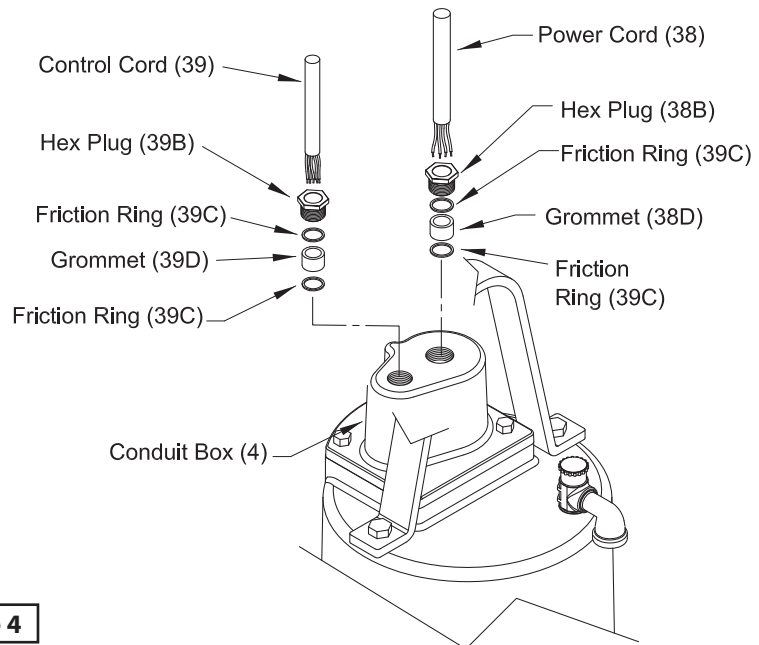

Figure 4
**Conduit Box Assembly** - Check power (38) and control (39) cables for cracks or damage and replace complete conduit box (4) if required. (See Figure 4) Bring motor wires through opening in top of motor housing (3), check sleeving and replace if damaged. Position square ring (5) in conduit box (4) and reconnect leads using connectors and insulators. See Figures 5, for wiring schematics.
Remove gland nuts (38B) & (39B), friction rings (38C) & (39C), and grommets (38D) & (39D) from conduit box (4), inspect and replace if damaged (See Figure 4). Reassemble by inserting one friction ring, grommet, one more friction ring and gland nut into conduit box. Torque gland nuts to 15 ft./lbs. to prevent leakage.
**Wear Ring** - Apply retaining compound to the bore of volute (37) and press wear ring (33) into bore until seated.